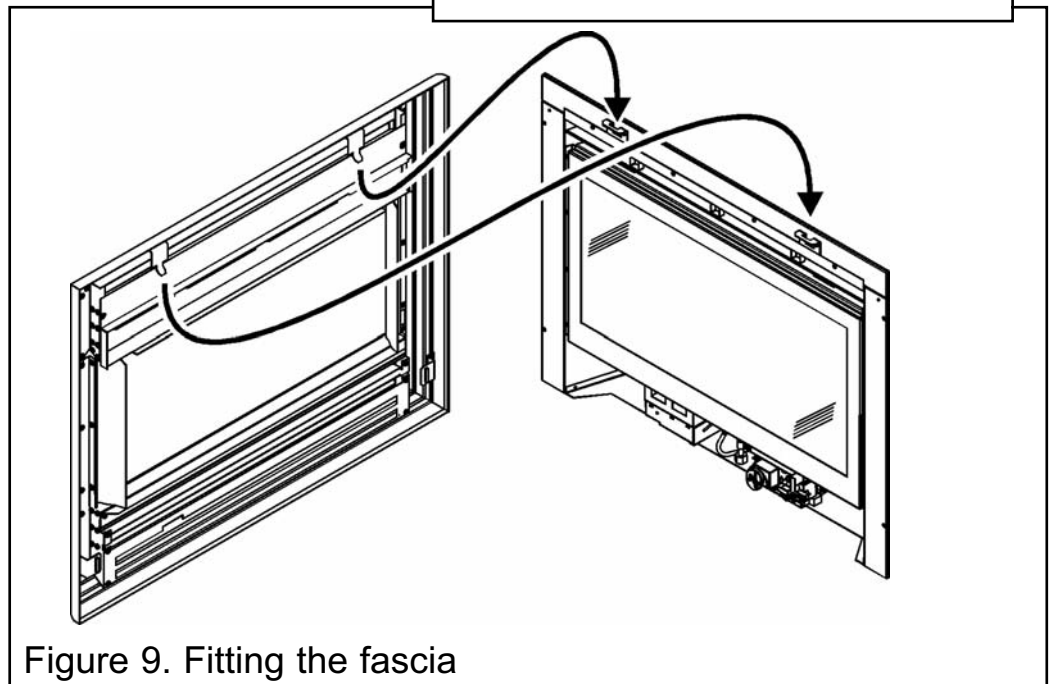

Figure 9. Fitting the fascia
4. To fit the fascia, place the top rear of the fascia against the fireplace front surface so that the two retaining plates at the back of the fascia are directly above the two retaining brackets on the convection box. Keeping the lower part of the fascia clear of the fire body, lower the fascia making sure that the rear retaining plates locate fully into the retaining brackets on the convection box (See figure 9). The fascia bottom is held in place with magnets.